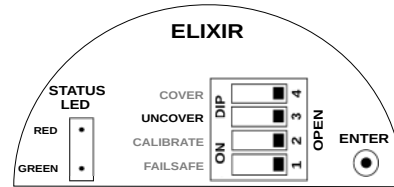

Figure 16: Saving Uncover Delay
- Uncover Delay is entered, but not saved. To save and test the Uncover Delay, set the UNCOVER switch back to OPEN position as shown in figure 16. The STATUS LED will come back to its original position.